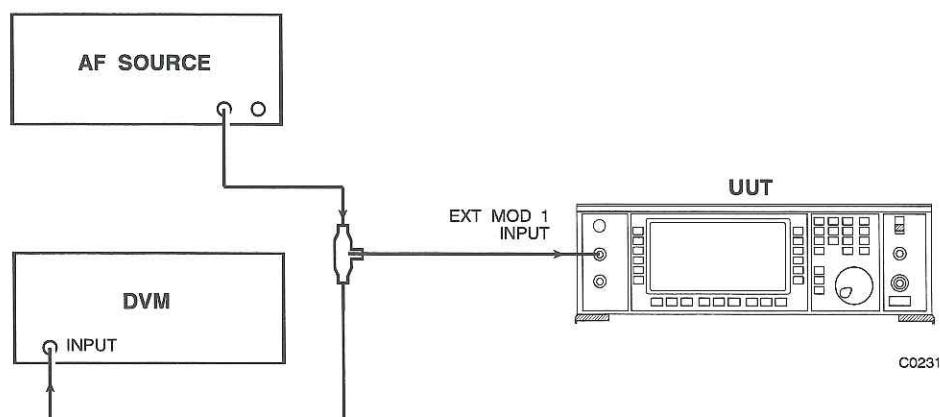

Fig. 5-2-1 Equipment configuration to set the reference voltage
| Fig. 5-2-1 Equipment configuration to set the reference voltage | 5-2-5 |
- (1) Connect the AF source output and the DVM input via a T-connector to the EXT MOD 1 INPUT on the UUT. Equipment configuration is shown Fig. 5-2-1.